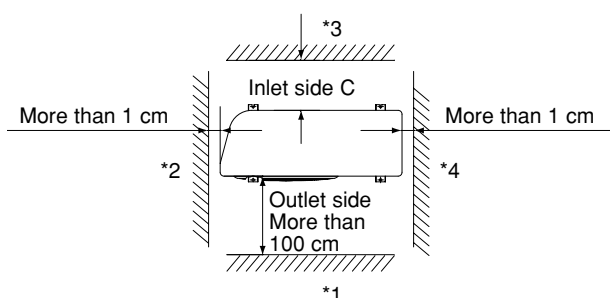
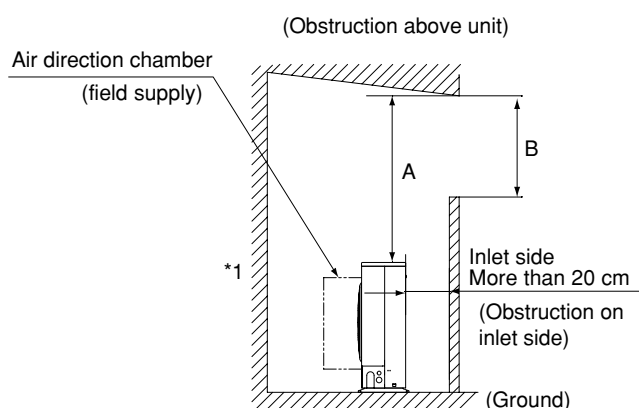

Fig. 1-5
Fig. 1-6
- allow enough room around the unit for air intake/exhaust and possible maintenance. (Fig. 1-5)
- Concerning inlet-side distance "C" (Fig. 1-5)
- If wall *1 is on the outlet side (Fig. 1-5), or if obstructions are present on all 3 sides *2, *3, and *4 (Fig. 1-5), then the minimum distance for "A" and "B" is 2 m (Fig. 1-6). Even if there is no wall on the outlet side, a minimum of 100 cm is required.